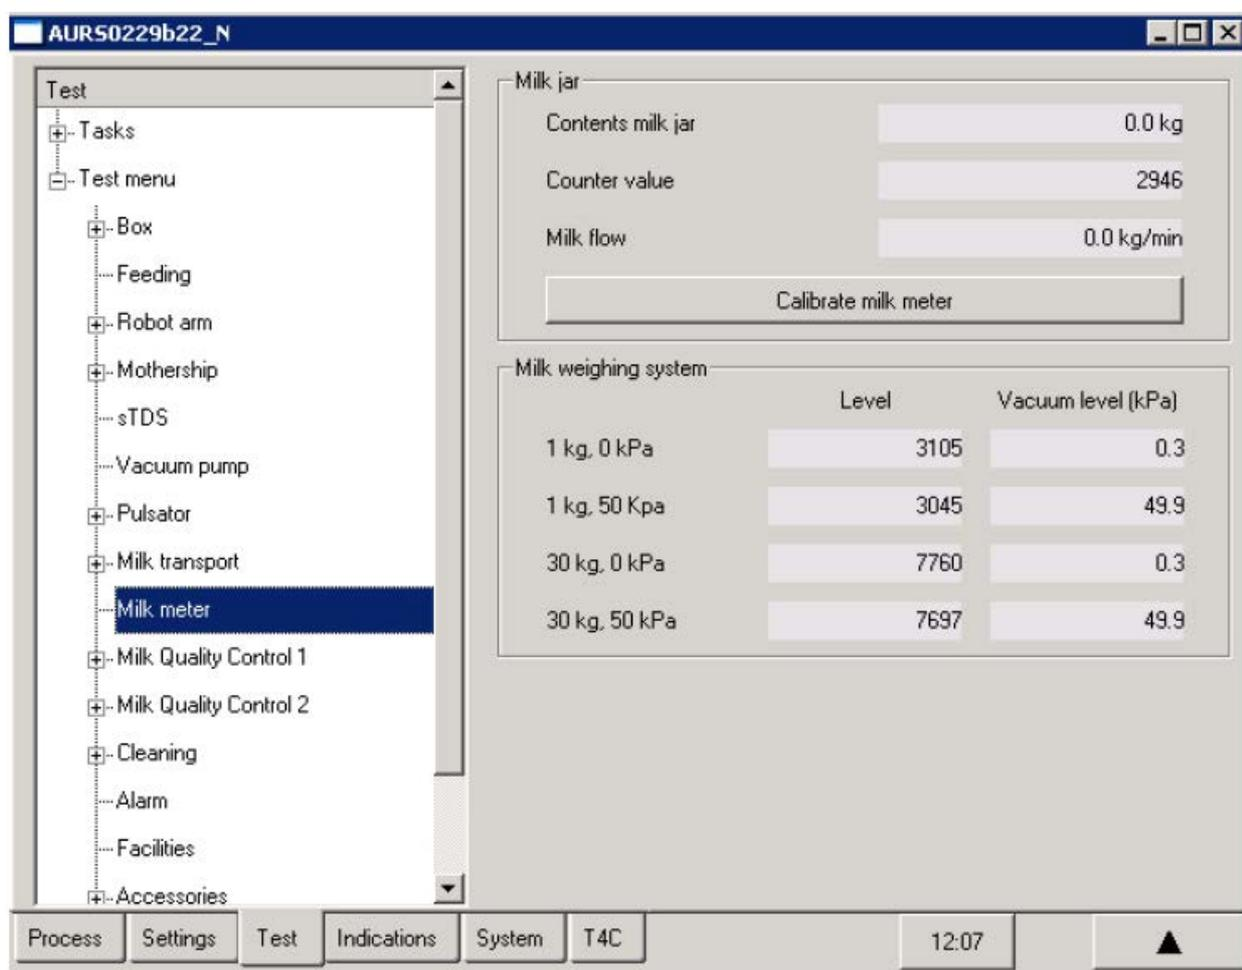

Figure 1.
- Go to Test>>Test menu>>milk meter (Figure 1)